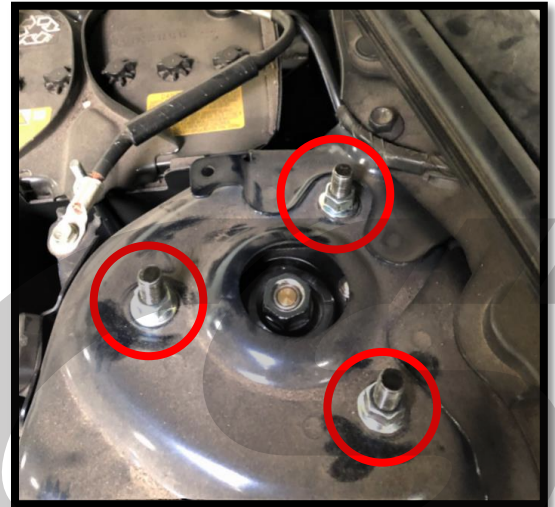

Figure 3a
- a) Install the front left CorkSport coilover onto the left (driver's) side of the vehicle. Lift the coilover into position, and hand tighten the three supplied upper strut nuts (circled in red in Figure 3a). Then tighten these nuts to 30-35ft-lbs.